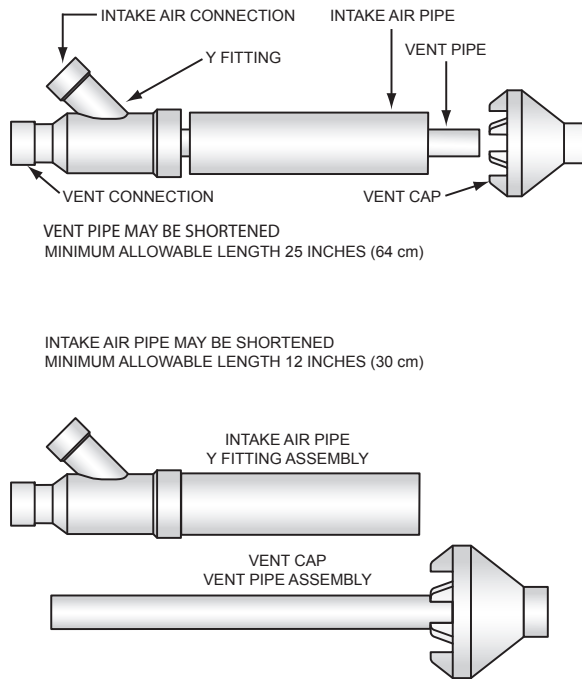
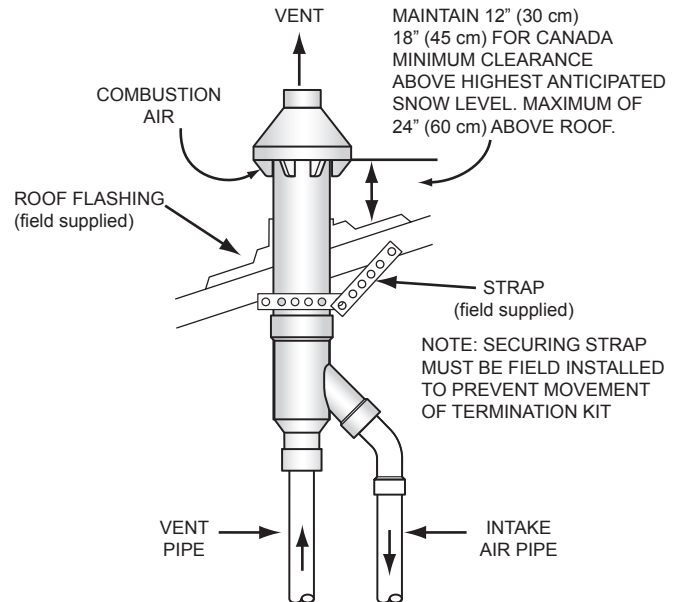
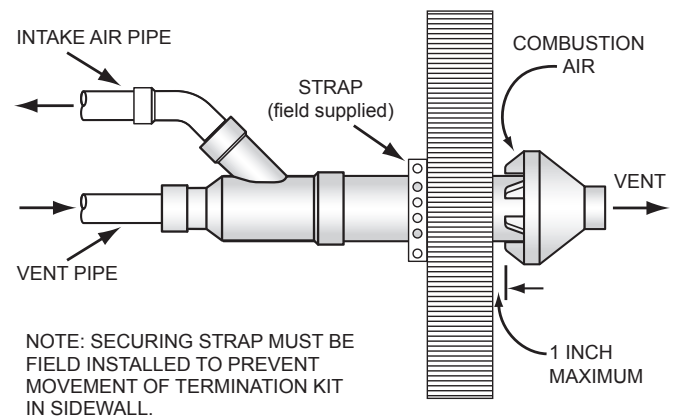

Figure 31. Concentric Termination Kit
Figure 32. Concentric Termination - Vertical Installation
Figure 33. Concentric Termination - Side-Wall Installation
3. When installing a concentric termination vertically through the roof; ensure that all exterior vertical clearance requirements for the concentric termination, shown in **Figure 32** (page 29), are being maintained. These clearances and those cited by local and national codes must be maintained.
- See **Figure 31** (page 29) for the minimum lengths allowed for the concentric termination.
Assemble and install the four-inch concentric termination. Refer to **Figure 31**, **Figure 32**, and **Figure 33** for these instructions: